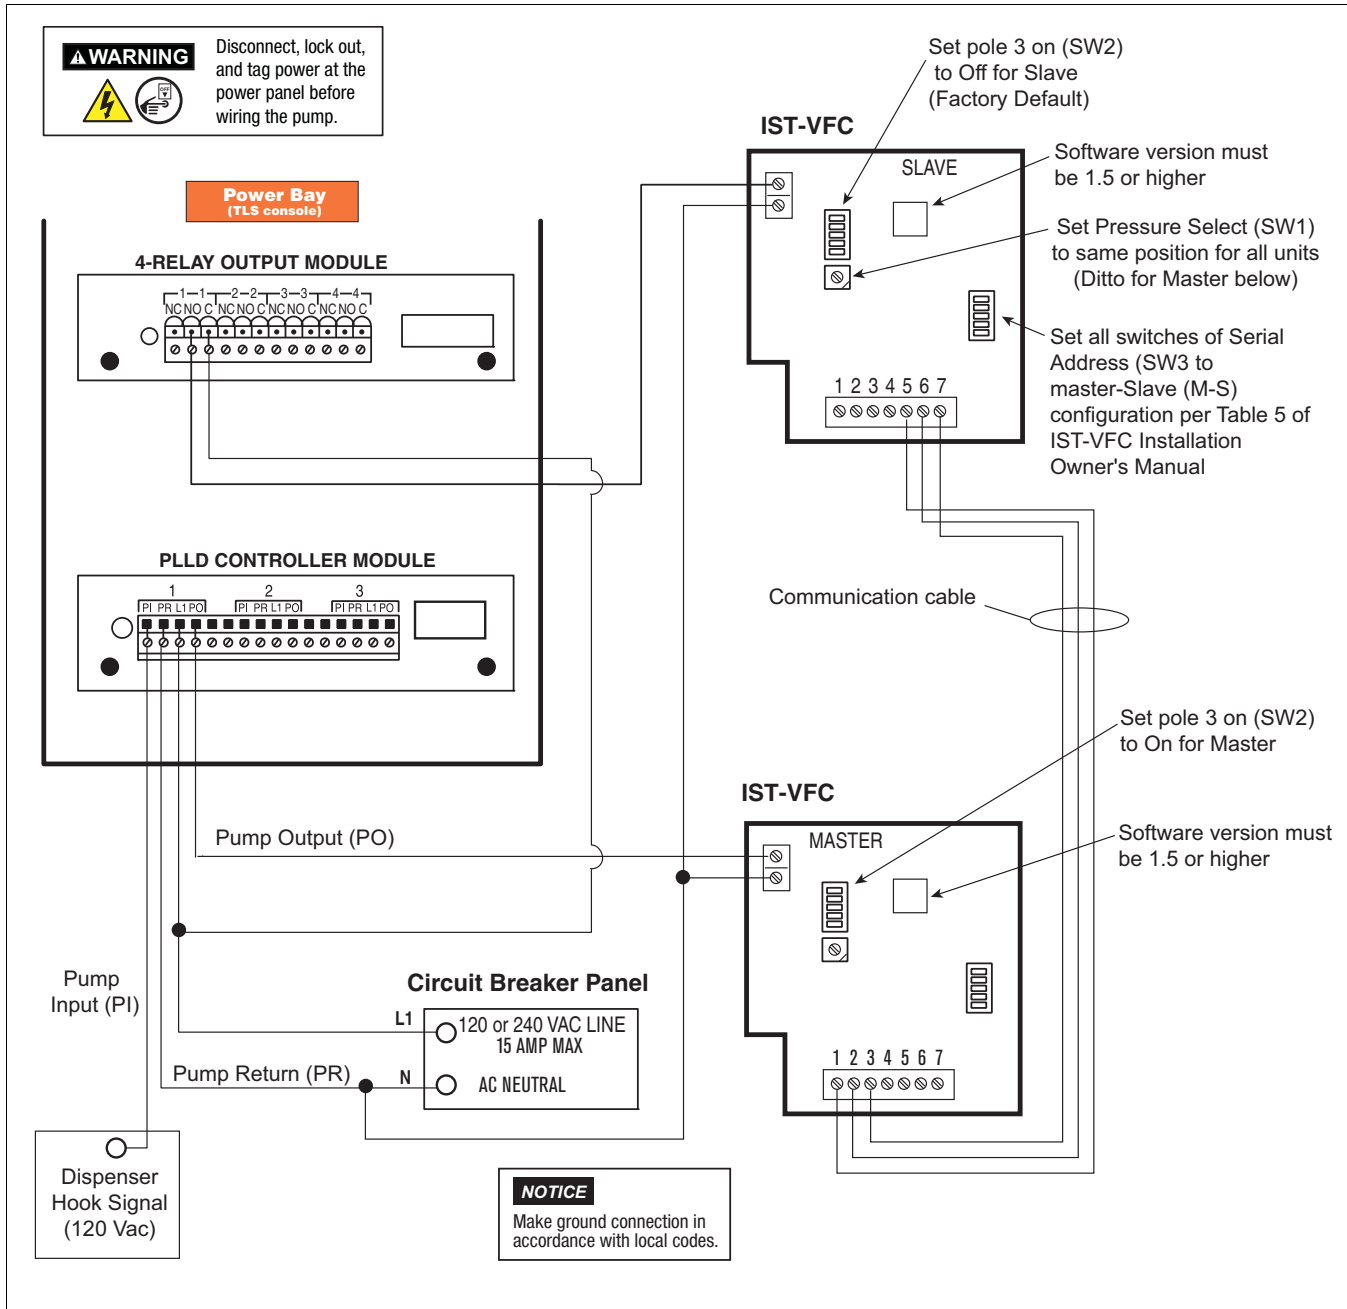
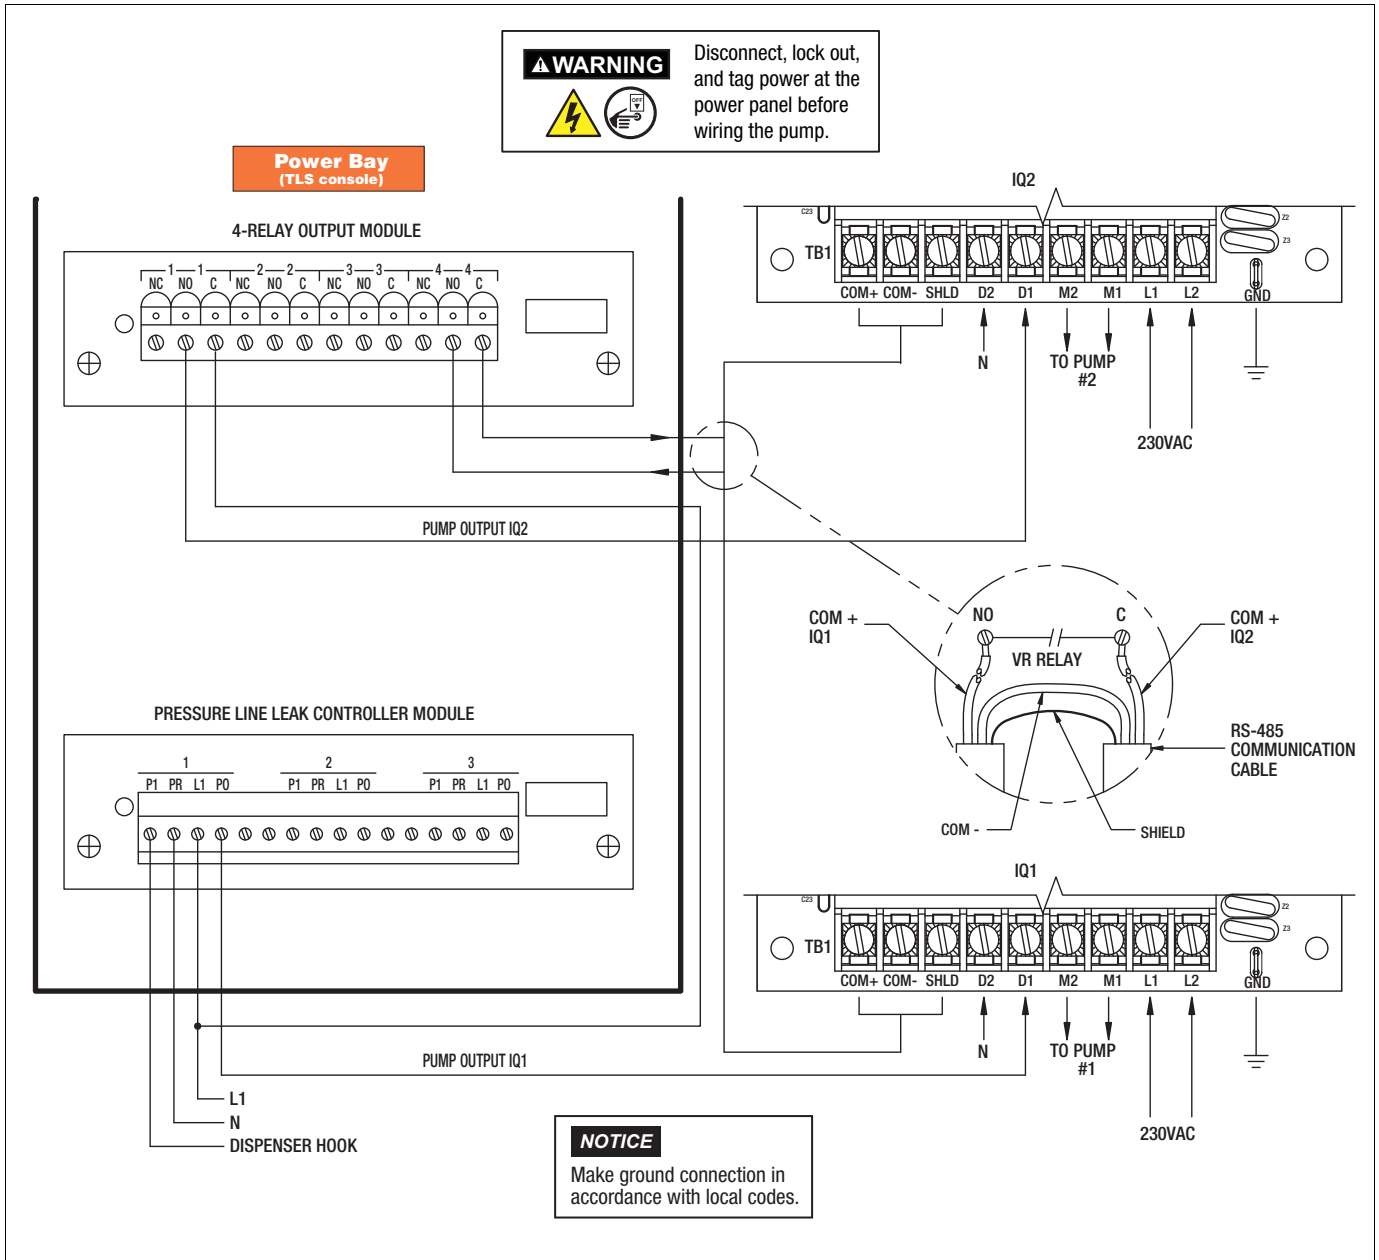

Figure 24. Manifolder Product Lines - Dual FE Petro IST-VFC Controllers (Requires TLS Software Version 22 Or Higher)
Figure 25. Manifolded Product Lines - Dual Red Jacket IQ Controllers
- Manifolded tanks (ref. Figure 22, Figure 24, and Figure 25)